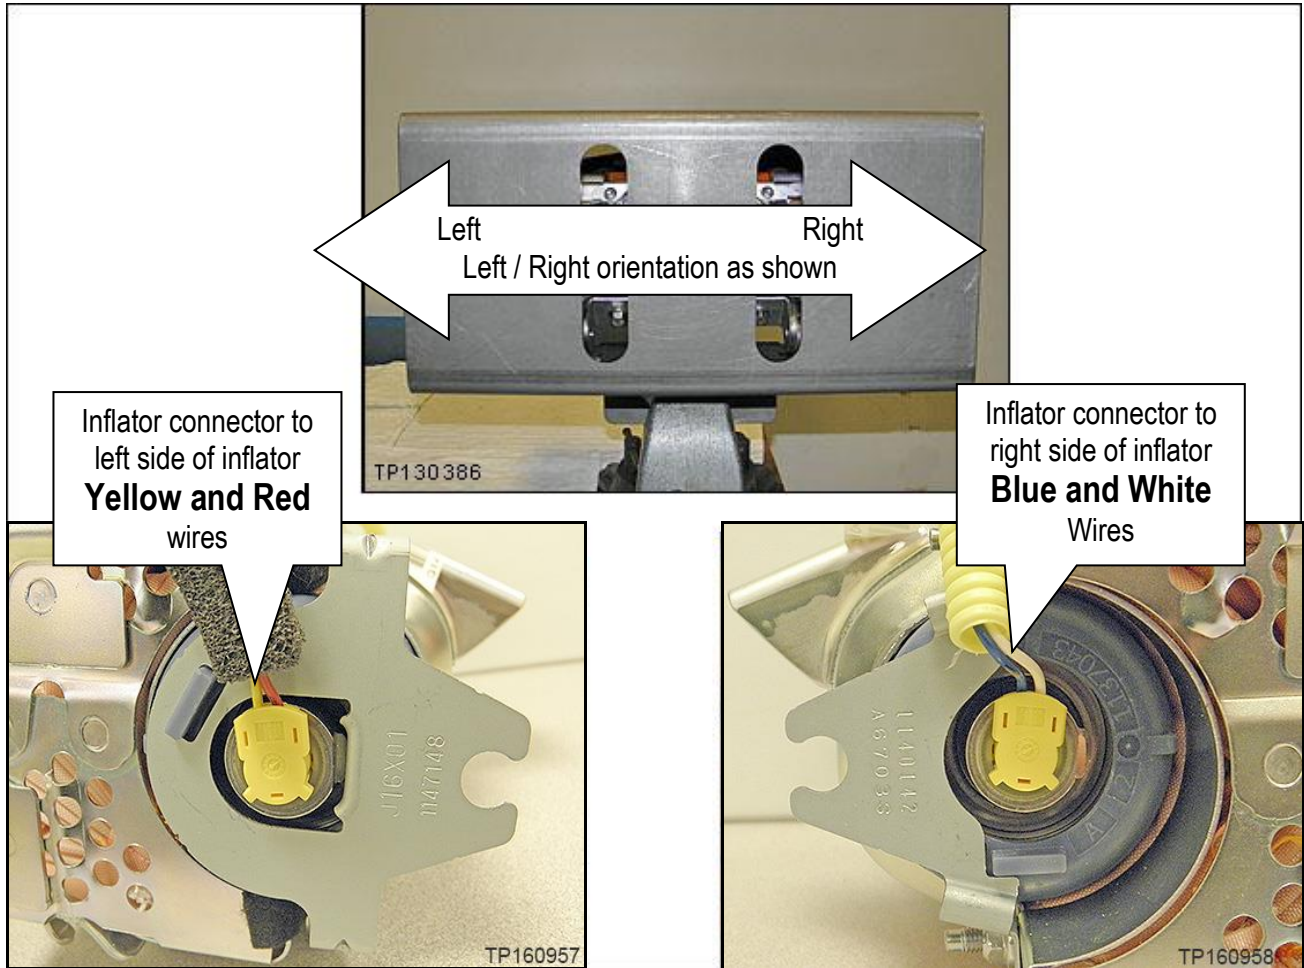

Figure 32
- **Make sure to attach the connectors to the correct ends of the inflator (see Figure 32 and 33).**
- Refer to Figures 32, 33, and 34.